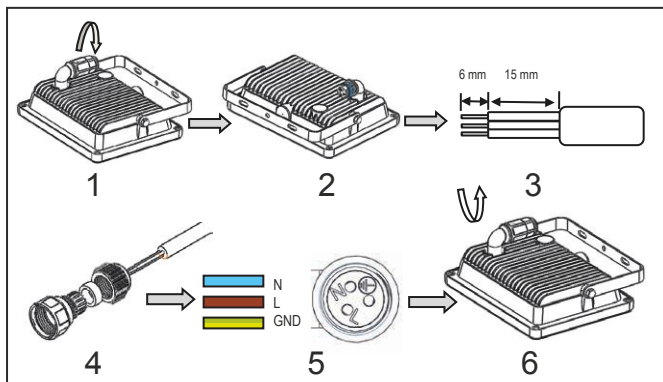

Fig.11: Installation
2. Open the connection sleeve by turning it counter-clockwise until the connection block is released as shown in Fig. 11 - 1/2.
3. Insulate the cables as shown in Fig. 11 - 3.
4. Slide the parts of the connection sleeve shown in Figs. 11 - 4 over the connection cable.
5. Screw the power cables as shown in Fig. 11 - 5 using a screwdriver.
6. Close the connector by turning it clockwise, as shown in Figure 11 - 6.